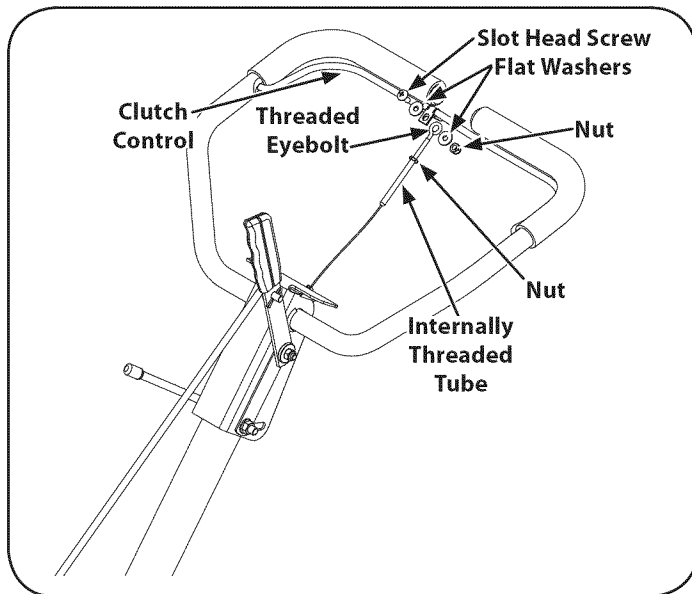

Figure 5
4. Remove the slot head screw, nut and two flat washers from the clutch bail. See Figure 5.
6. Thread the eyebolt and nut removed earlier into the internally threaded tube at the end of the cable. The thread engagement should be about $\frac{3}{4}$ ". Tighten the nut against the tube at the end of the cable. See Figure 5.